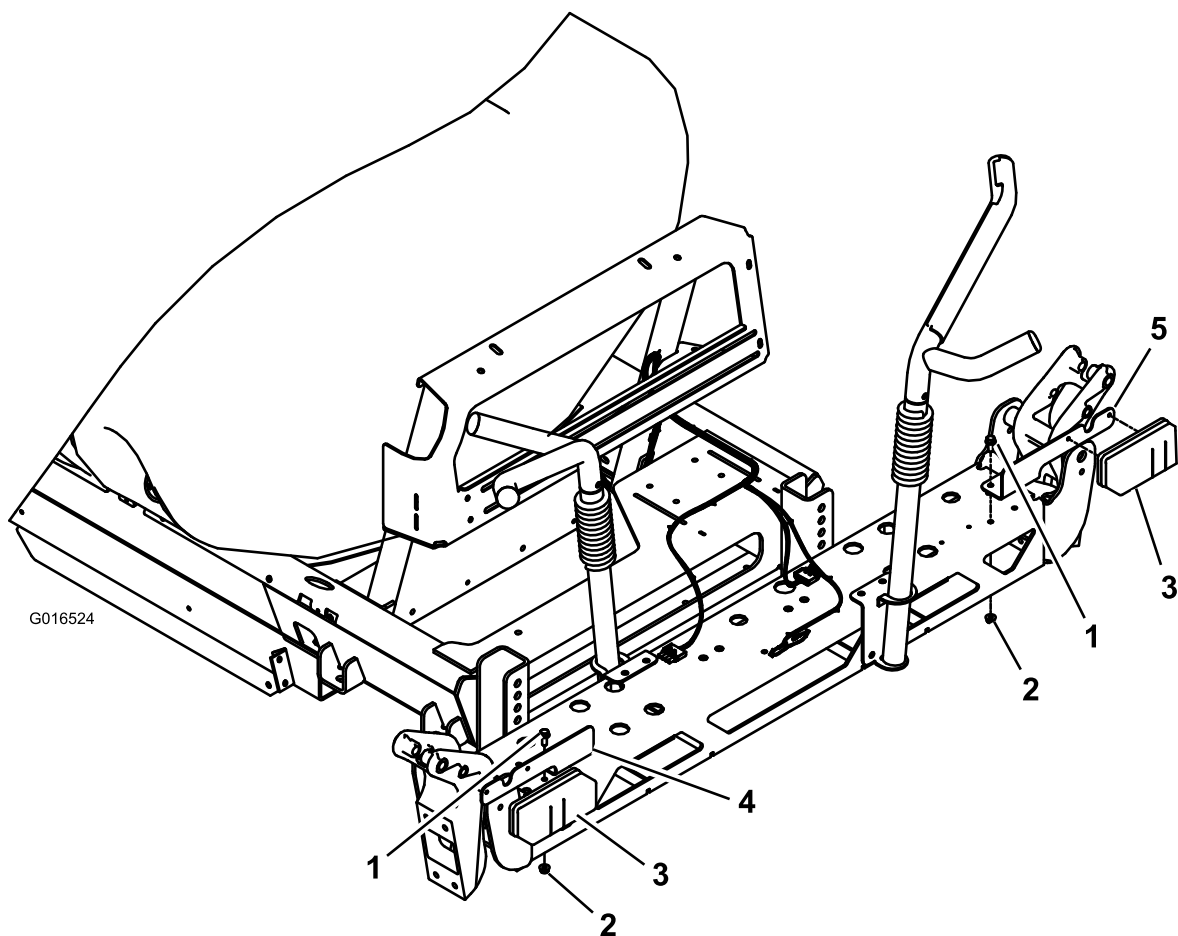

Figure 5
1. Install the left-hand and right-hand signal brackets to the boom support with 4 hex-head flange screws and 4 hex flange nuts (Figure 5).
2. Install the tail lights onto the signal brackets (Figure 5).